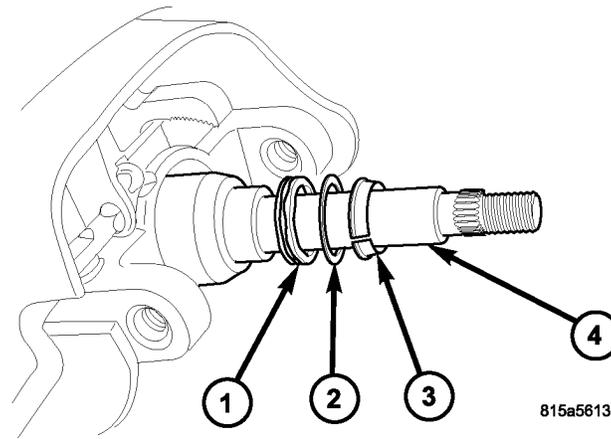

Fig. 1 **WAVE WASHER, SHIM, AND LOWER BEARING WEDGE INSTALLATION******
THIS BULLETIN SUPERSEDES SERVICE BULLETIN 19-005-04 DATED MAY 25, 2004, WHICH SHOULD BE REMOVED FROM YOUR FILES. ALL REVISIONS ARE HIGHLIGHTED WITH **ASTERISKS**** AND INCLUDES A REVISED FIGURE 1 AND STEP 16 OF THE REPAIR PROCEDURE.**
- c. The lower bearing wedge (Fig. 1).